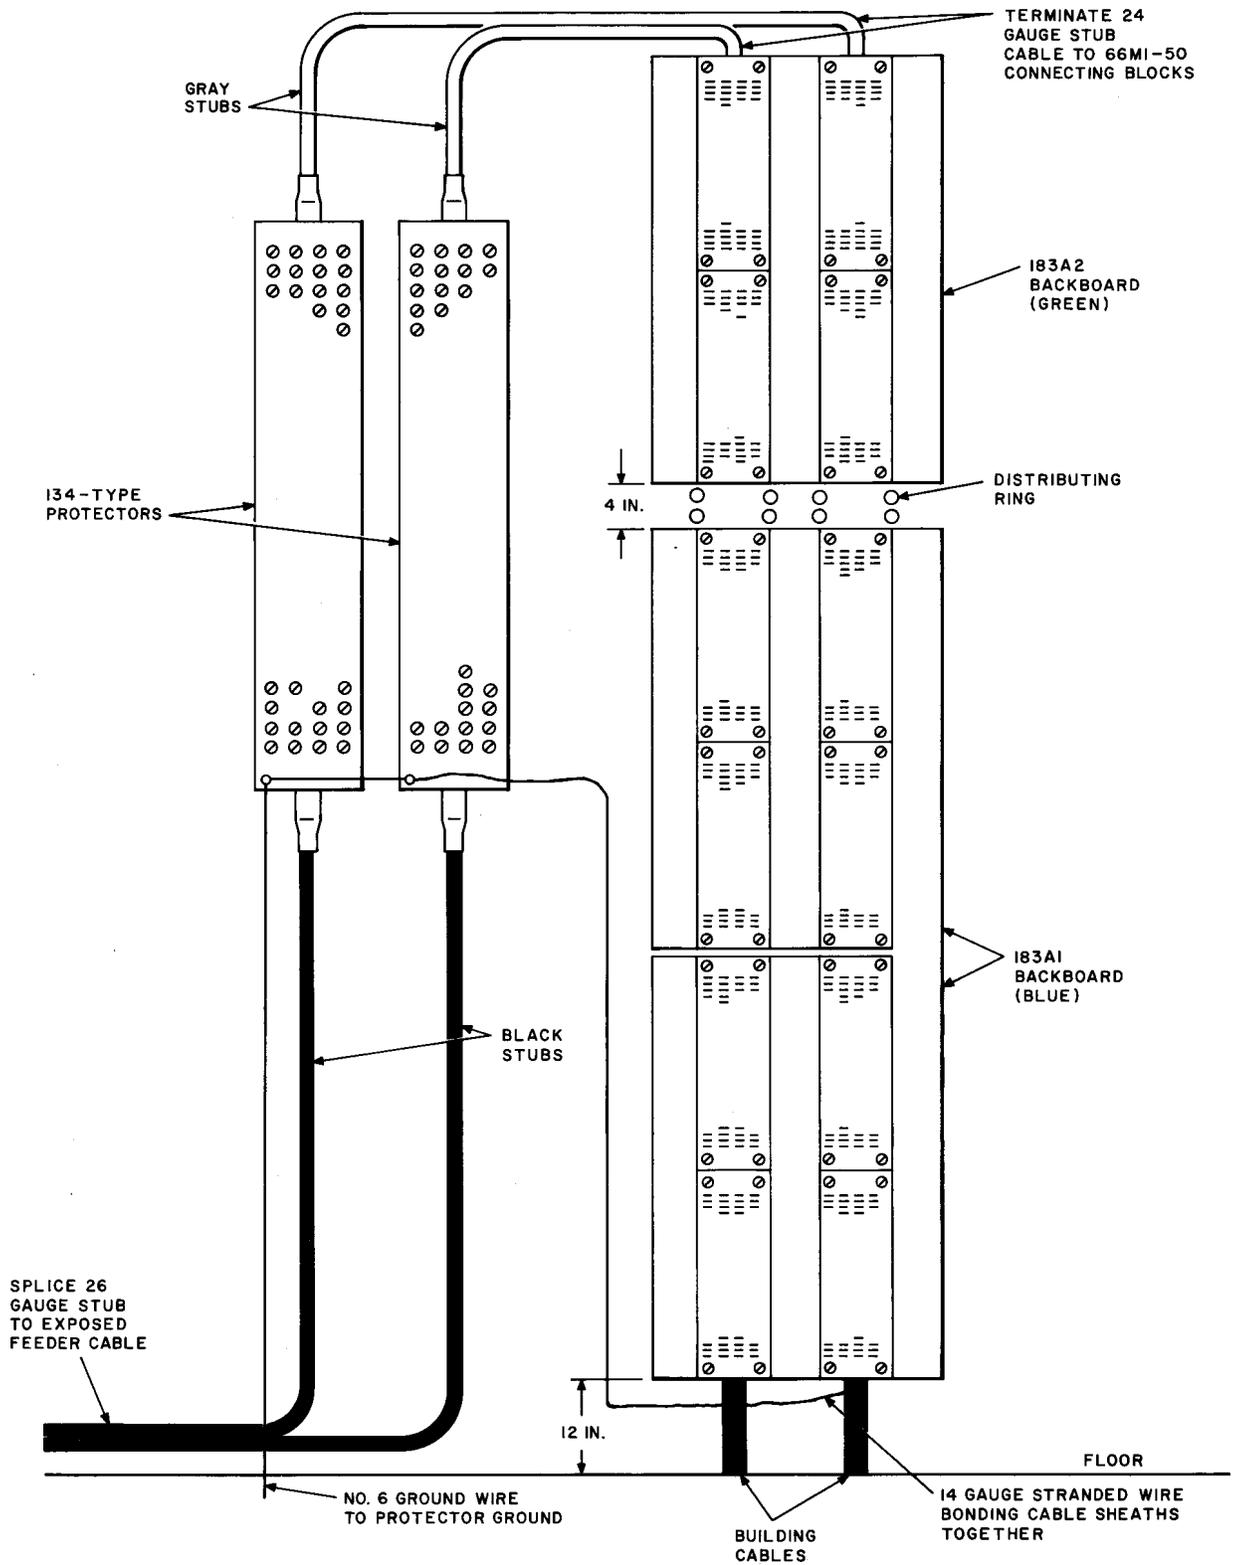

Fig. 15—Wall Mounted Terminal 200 Pair Exposed Entrance Cable and 400 Pair Building Cable
**4.16** Starting at the left-hand side of the wall, mount the 134-type protector to the wall (Fig. 15).
**4.17** Mount one 183A2 backboard (green) and two 183A1 backboards (blue) on the wall as shown in Fig. 15.
**4.23** Splice the 26-gauge stub cable to the entrance cable and ground as outlined in 4.14. Run a 14-gauge stranded, tinned conductor wire from the D bond clamp to a common ground as shown in Fig. 15. This strapping provides continuity between the building cables and entrance cables.